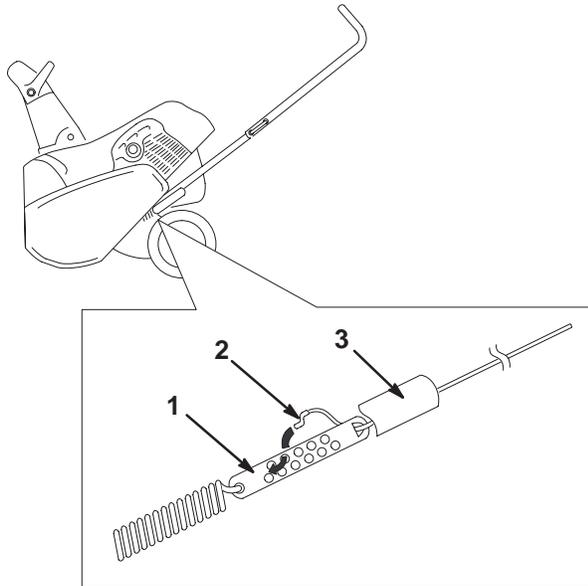

Figure 19
2. Slide the spring cover up the cable to expose the cable adjuster (Fig. 19).